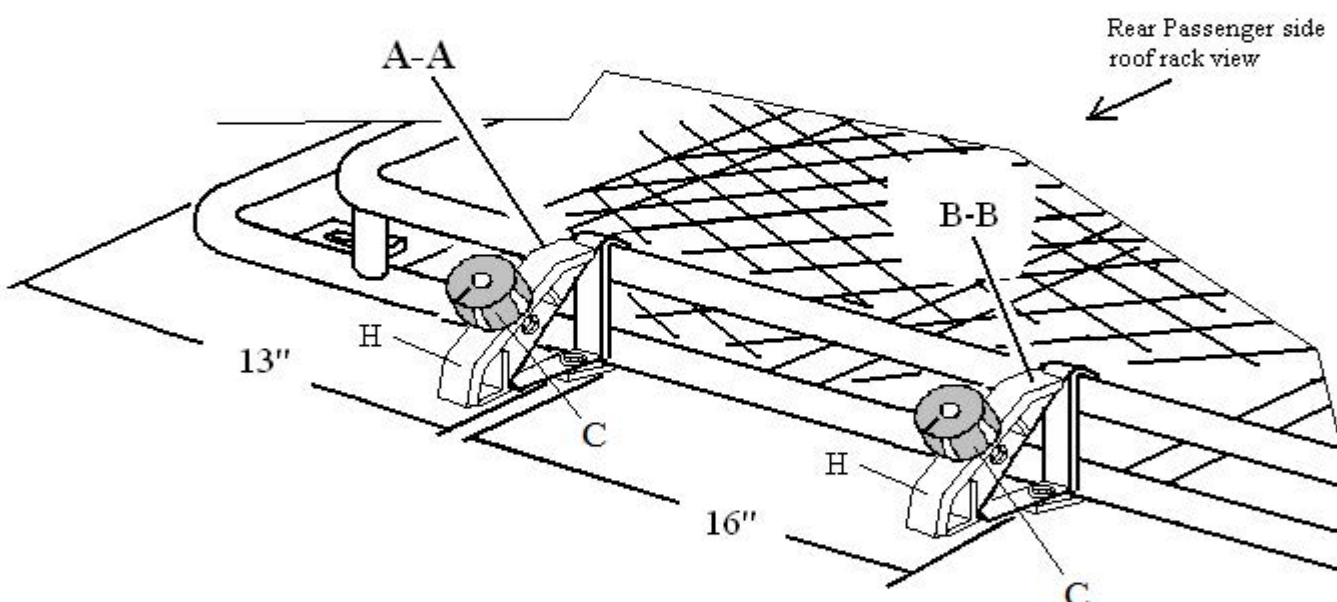

Fig. 5
- 1- Referring to page 4 Fig. 3 loosen nut (F) and screw (D) but do not disassemble then swing clamp (B) either to the right or left of the Axe/Shovel bracket "A-A" shown in Fig. 4. Set Axe/Shovel bracket "A-A" on top of upper rack tube and against lower rack tube also shown in Fig. 3 approximately 13" from the end of the Gobi rack shown in Fig. 5 page 5. Swing clamp (B) under lower roof rack tube as shown in Fig. 3 and fully tighten screws and nuts (D) and (F).
- 1- Refer to page 5 Fig. 5 and continue to the second bracket "B-B" install the bracket in the same manner as bracket "A-A" but at a distance of 16" from bracket "A-A". Fully tighten the bracket at this time.